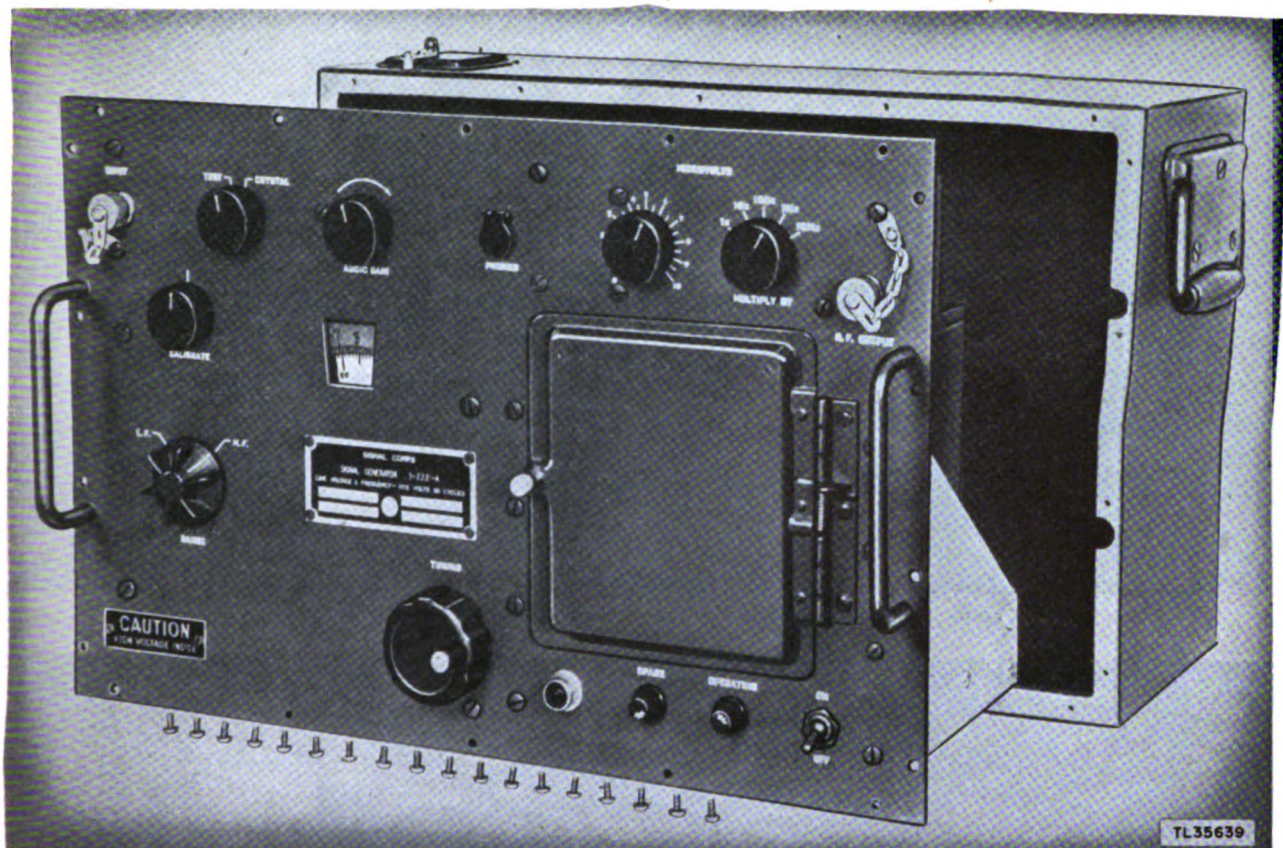

Figure 225. Signal Generator I-222-A, removed from case.
*b.* In order to replace tubes or make repairs on the unit it is necessary to remove it from the case. To remove the unit first unplug the a-c cord at the rear of the case. Close and latch the receptacle cover. Open the antenna rod cover and push the antenna rod down as far as it will go. Place the generator on its back with two strips of wood under it. Remove the screws from around the border of the panel and slip the unit from the case (see fig. 225).
*a.* To remove the attenuator assembly, remove the two screws from the attenuator assembly and slip the cover from the case. Unsolder the wire coming from the metal tubing at the terminal on control 15. Unscrew the hex. nut at the end of the metal tubing. Remove the protective cap on the receptacle marked R.F. OUTPUT. With a No. 8 Allen head wrench, loosen the setscrew on each of the two knobs just below MICROVOLTS on the front panel (see fig. 225). Remove the two knobs from the shafts. Remove the four mounting screws, then take the assembly from the panel.
*a.* To replace fuse 113, turn the bakelite button marked OPERATING counterclockwise (see fig. 225). Remove the fuse holder and fuse. Replace the fuse in reverse order.